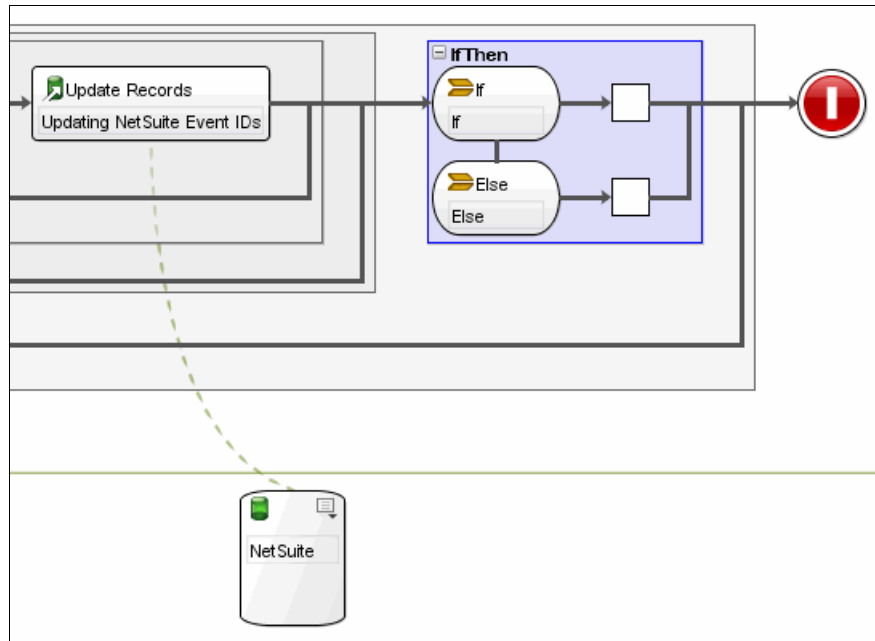

Figure 11-30 If...Then block added to the end of the orchestration
4. Drag an If...Then activity to the orchestration within the existing If...Then activity and outside of the For Each NetSuite Events activity, as shown in Figure 11-30.